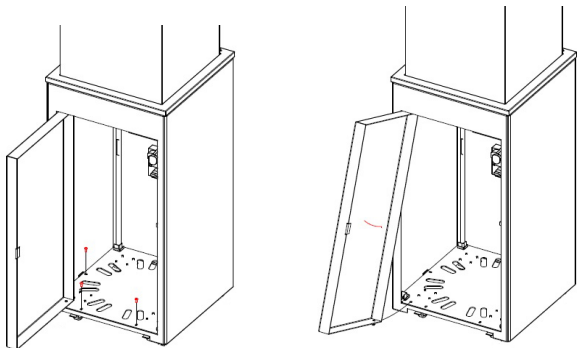

Fig. 7 White and Black Glass Decorative versions
- Remove the glass according to the instructions on page 18, arrange the decorative elements evenly on the burner according to the graphic (fig. 7), then reinstall them.